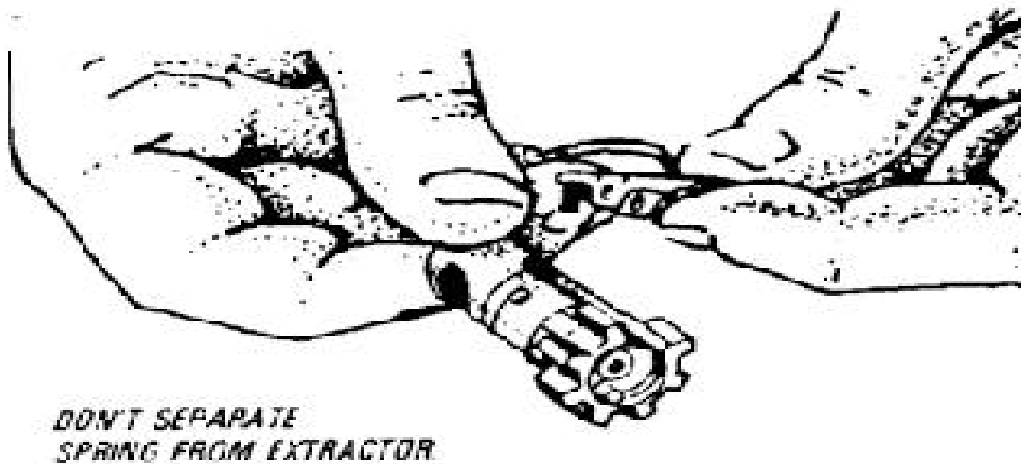

Figure E-18. Removing the extractor and spring.
p. Lift out the extractor and spring (figure E-18), taking care so that the spring does not separate from the extractor.